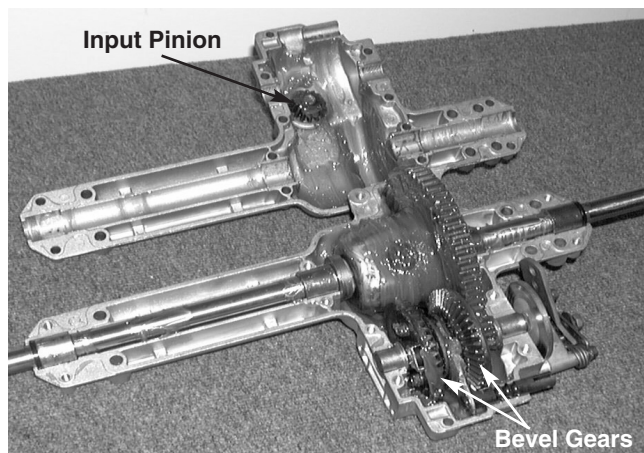

FIGURE 8.
- 29). Place the upper transmission housing over the lower housing and rotate the input shaft, making certain the bevel gears mesh correctly with the input pinion. See figure 8.